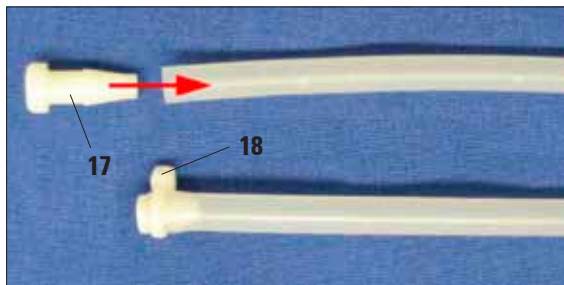

Fig. 27
If only one or two rinsing stations are required, the hoses that are not used must be sealed with a plug (17), see Fig. 27.
- To do this, twist and push the plug fully into the end of the hose, and then secure it with a cable tie (18).